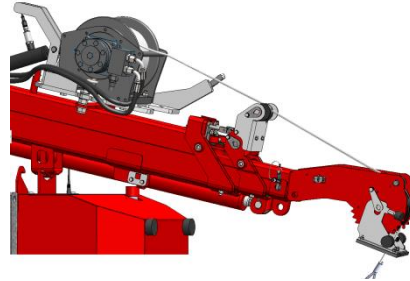

Figure: 40
- Run the winch cable over the winch cable sheaves of the boom as shown in the figures. Make sure that the winch cable is guided properly over the winch sheaves (see figure 40).